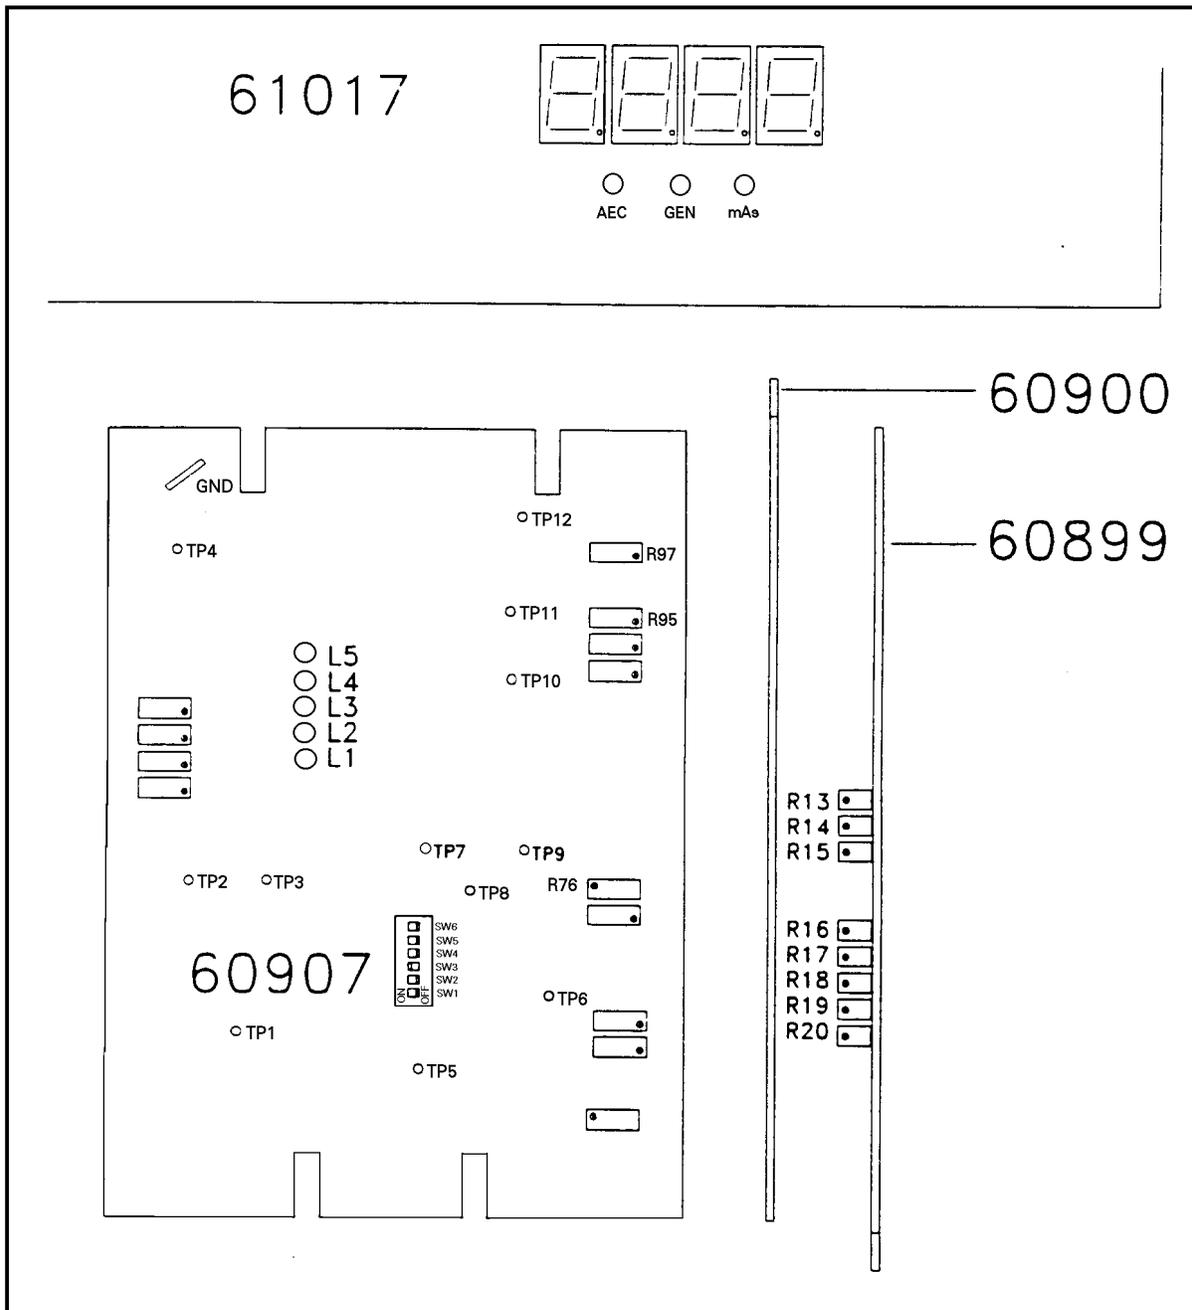

Figure 3-85
(1) The collimation and location of the X-ray tube/arm must remain unchanged throughout the entire calibration procedure.
(2) The X-ray tube/arm must be centered precisely on the center line of the focused grid.
(3) The SID must remain unchanged throughout the entire calibration procedure and must be within the range of the focused grid.
(4) The phantom must be homogeneous and must completely cover all three fields of the ion chamber. The phantom must sit on the table top. Both the table top and phantom must be level.
(5) The X-ray beam must be collimated to completely cover all three fields of the ion chamber, but the X-ray beam must not be allowed to pass outside of the phantom even near its base.
(6) Calibrate the AEC for a particular screen/film combination. A change in the screen/film combination will require the recalibration of the system.
(7) Ensure the film processor is in stable operating condition before calibrating the AEC.
**NOTE:** This procedure matches the AEC kVp selection circuitry to the actual kVp output levels of the generator. (See Figure 3-85 for adjustment component locations.)
- (1) Turn the generator on.
- (2) Turn the AEC on.
- (3) Select normal density.
- (4) Switch on 60907 SW3 to light LED (kVp level indicators).
- (5) Select 100 kVp.
- (6) Adjust 60907 R97 so that LED 60907 L3 just goes out and LED 60907 L4 just comes on.
- (1) Refer to step 7b for calibration/test set-up and Figure 3-85 for input amplifier gain adjustment location.
- (2) Set the X-ray generator at 100 kVp, 100 mA large focal spot, and 5 second backup.
- (3) Position the phantom (10 inches of water or equivalent) as described in step 7b.